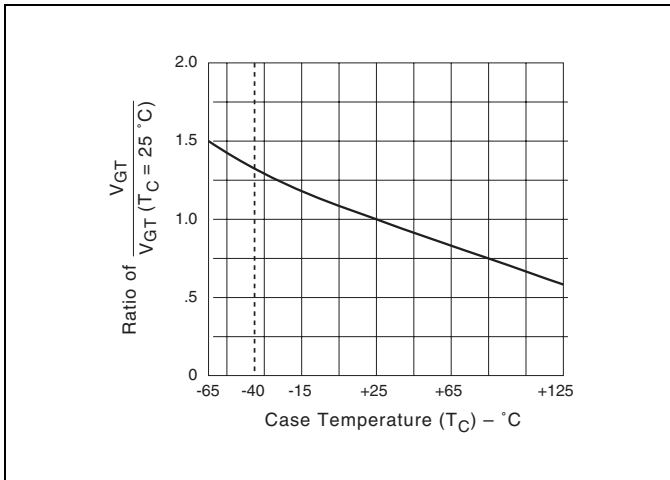

Figure E4.7 Normalized DC Gate Trigger Voltage for all Quadrants versus Case Temperature
- (6) See Figure E4.7 for V_{GT} versus T_C.